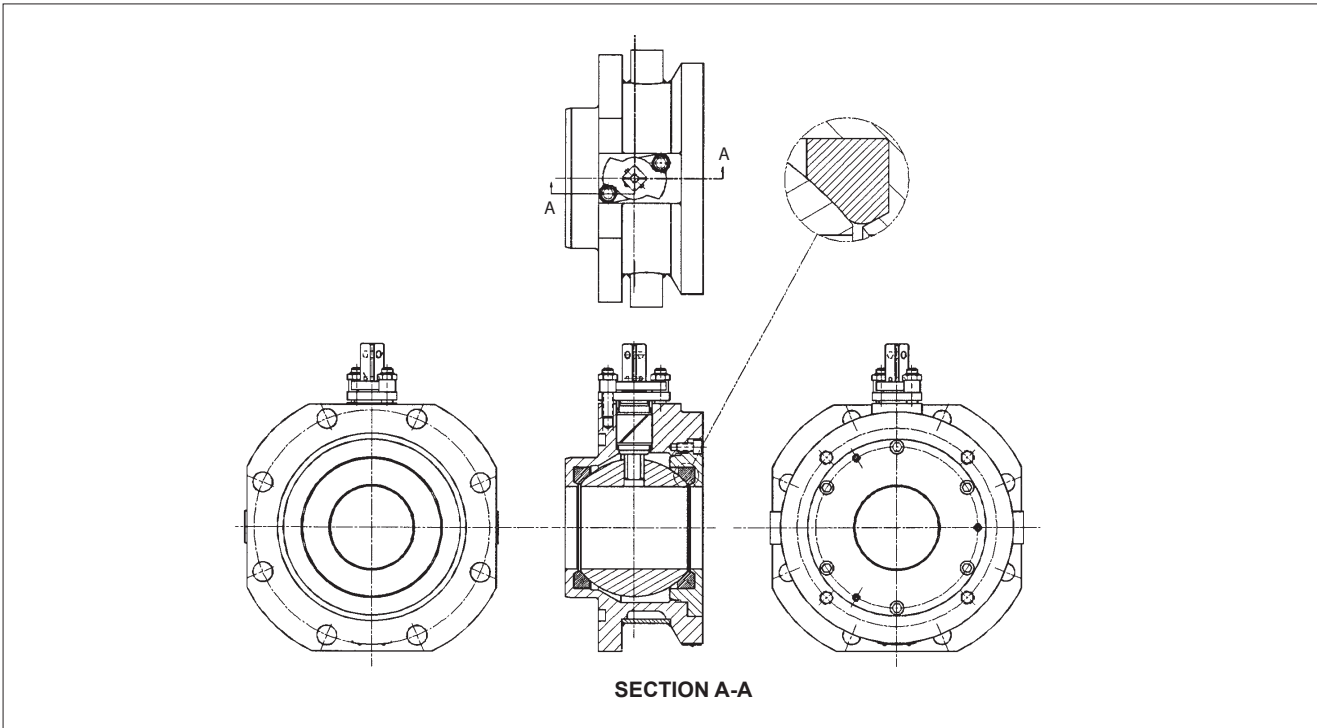
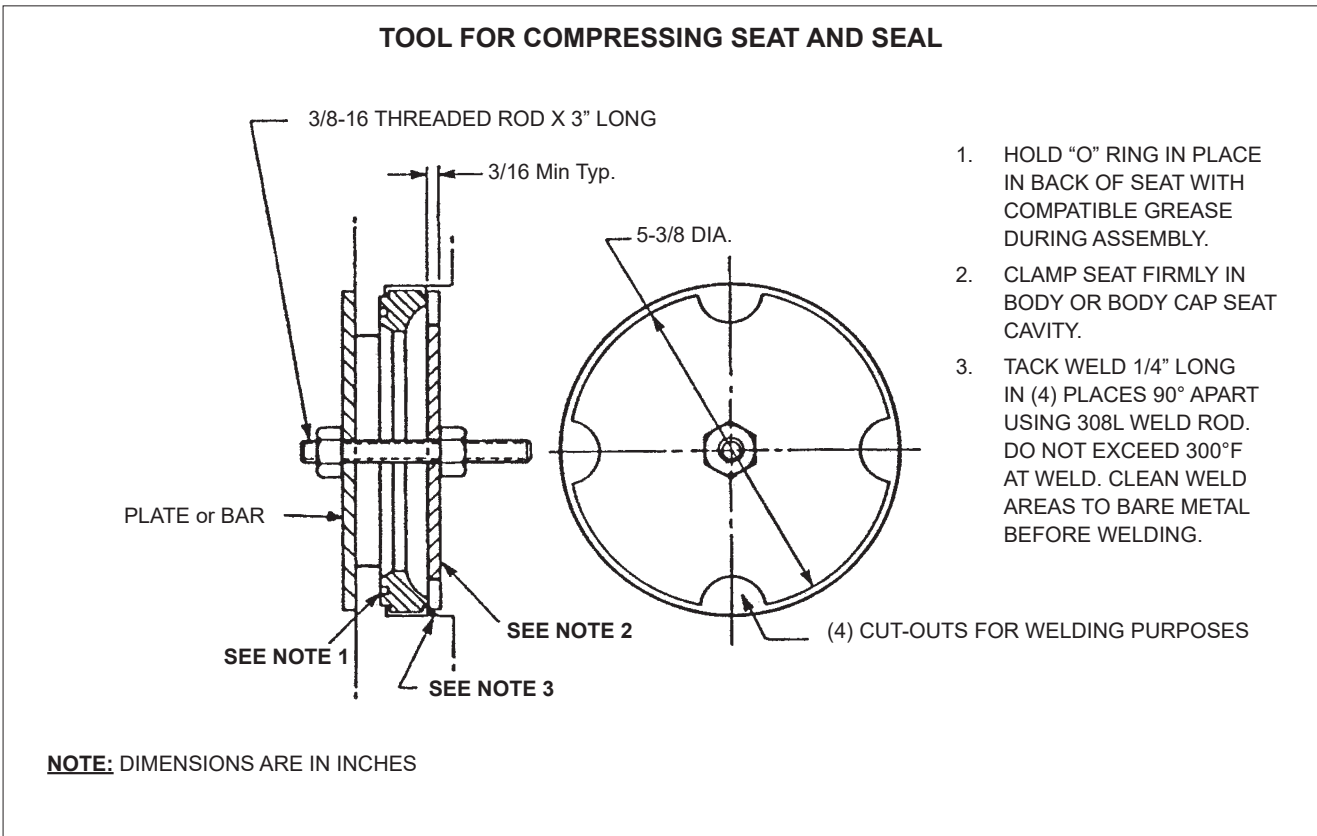
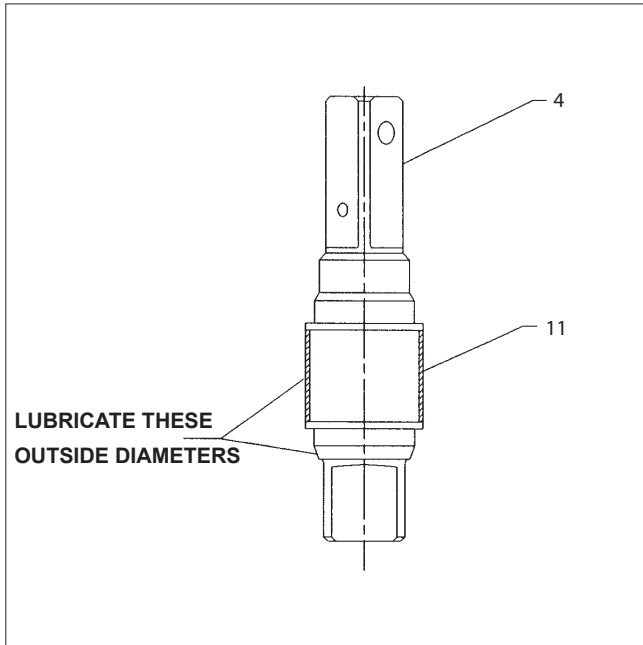
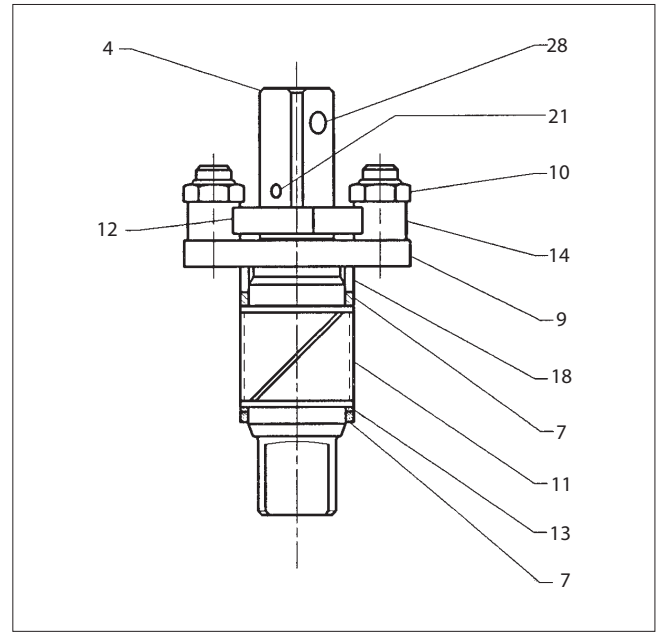

Figure 2.
Figure 3.
Figure 4.
Figure 5.
1. Slide the first valve seat (5) with "O" ring (25) into the valve body seat cavity (1), so that the bevel surface of the seat will be adjacent to the ball (3) (see **Figure 2**). While clamped firmly and centered, tack weld the seat to the body (**Figure 3**).
2. Place the ball (3) into the valve body (1) in the closed position. Insert the stem (4) as a temporary means of holding the ball.
3. Install the second seat (5) with "O" ring (25) into the insert (2) so that the bevel surface of the seat will be adjacent to the ball (3). While clamped firmly and centered, tack weld the seat to the insert (2) (**Figure 3**). Install the body seal (6) into the machined sealing area of the body with the chamfer on the I.D. facing away from the ball.
4. Adjust the jacking screws (26) so they do not protrude through the insert or above the insert face.
5. Fit the insert (2) into the valve body aligning the mounting holes in the insert with threaded holes in the body.
6. Compress the insert into the body with the body insert cap screws (20) by tightening them evenly and alternately until the insert is bottomed and all cap screws are tight. (torque 25-35 ft.-lbs.)
7. Remove the stem (4) and install a stem seal (7) into the valve body stuffing box. Place the emergency seal (13) on top of the stem seal. Pre-assemble the stem (4) and stem bearing (11) as per **Figure 4**. Lubricate as noted with compatible lubricant. Install the stem/stem bearing assembly into the stem hole in the valve body (1). Exercise caution so that the stem bearing remains in place on the stem as it is being installed into the body stem bore.
8. Slide the second stem seal (7) over the stem (4) and into the body stuffing box. Slide the compression ring (18) over the stem and up against the stem seal. Slide the bonnet plate (9) over the stem and lined up with the body studs until it makes contact with the compression ring. Then gently tap the bonnet plate until the stem seal is seated on the stem shoulder.
9. Place one stop sleeve (14) and one bonnet nut (10) onto each bonnet stud.
10. Tighten each bonnet nut (10) evenly and alternately until they make contact with the bonnet plate (9). Then with a torque wrench, evenly apply about 240 in.-lbs. of torque to each nut.
11. Place the indicator stop (12) over the stem (4). A tamperproof pin in the stem will only allow the indicator stop onto the stem one way. At this point the stem with the indicator stop mounted and located between stop sleeves (14) is positioned so that a counterclockwise rotation of the stem will open the valve.
12. Retain the indicator stop by inserting the stem pin (21) into the stem (4). (See **Figure 5**)
14. Secure the handle (15) on the stem (4) with the handle pin (28) so that the handle is parallel with the ball port.